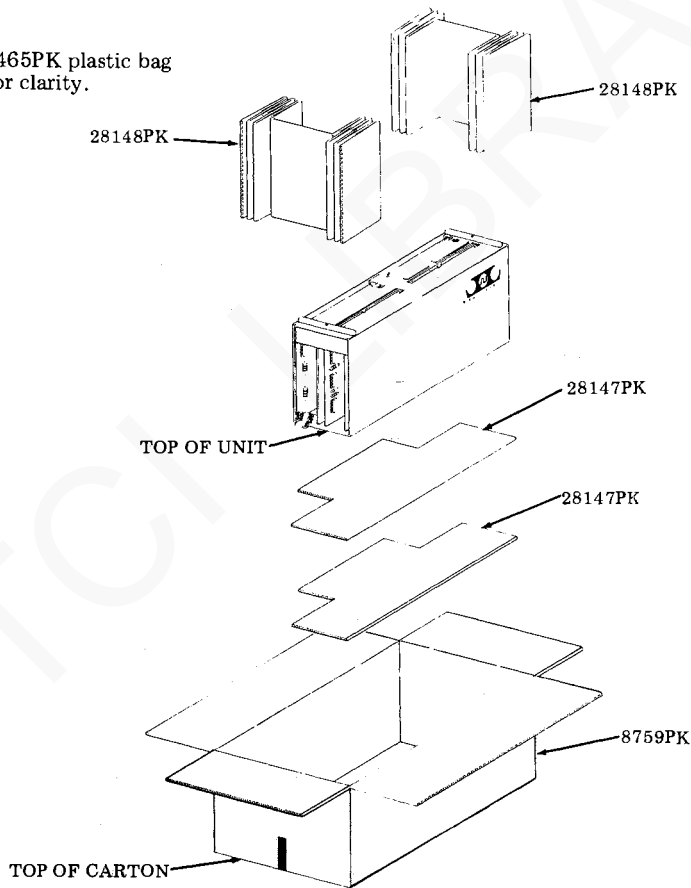

Fig. 60
- Step 2. Place two 28147PK details in carton as illustrated in Fig. 60.
- Step 4. Invert unit and place in carton so handles at top of unit fit in the cutout in the details. (See Fig. 60.)
- Step 5. Form a 28148PK detail and position around end of unit as illustrated in Fig. 60.
- Step 6. Form a second 28148PK detail and position around other end of unit as illustrated in Fig. 60.